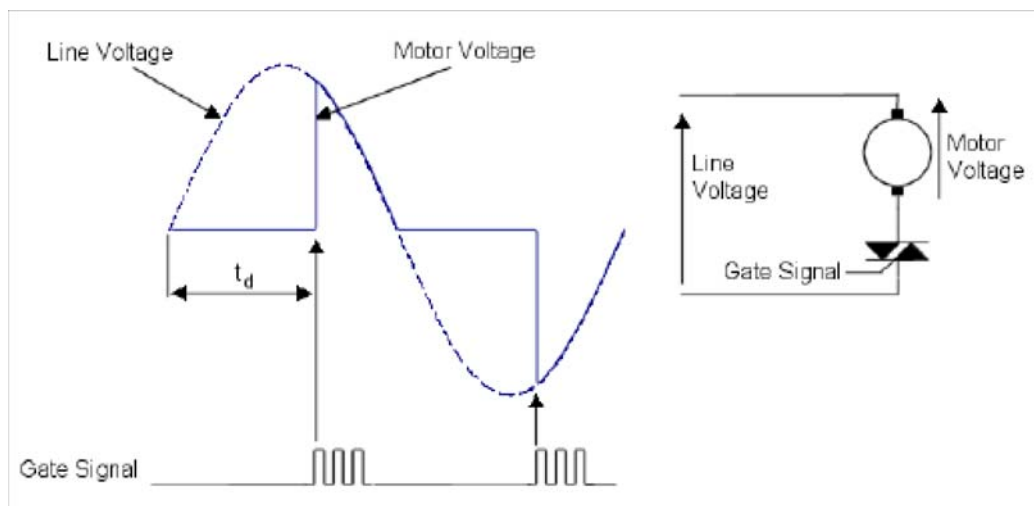

Figure 3. Line Voltage vs. Motor Voltage
- In phase control — TRIAC switches connect the load to the AC source for a moment in each cycle Figure 3